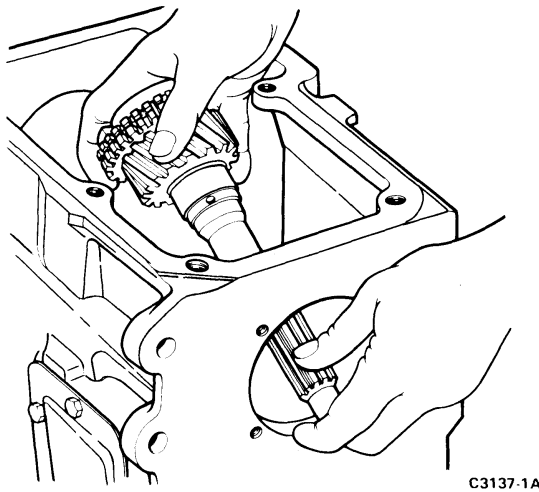

FIG. 10 Removing Input Shaft Assembly
12. Remove the input shaft assembly from the case (Fig. 10). Do not lose the 22 pilot bearing rollers from the inner end of the shaft.